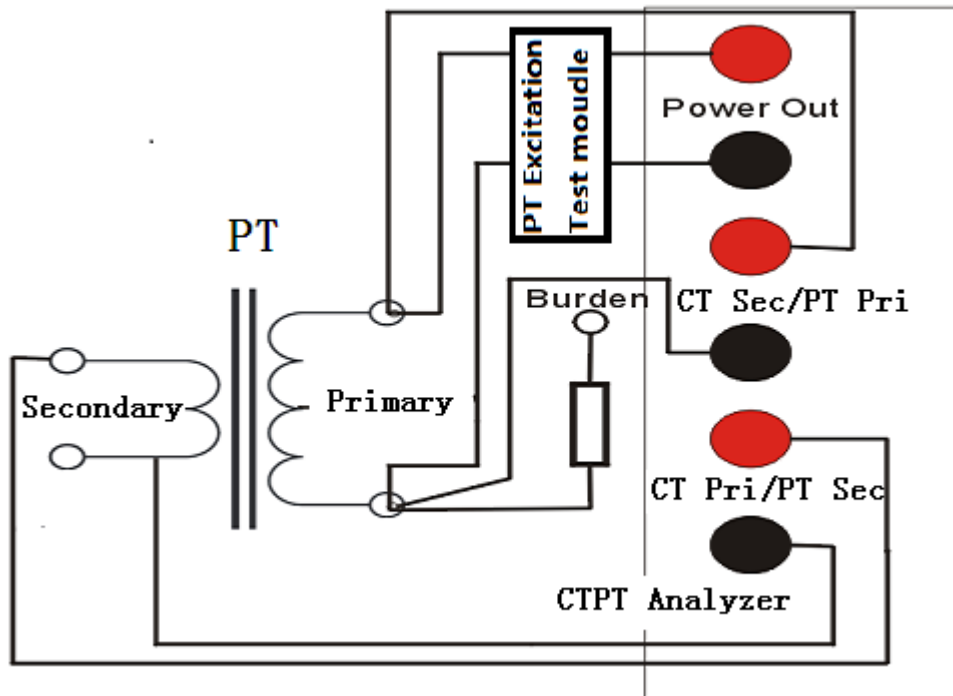

Figure 3.9 PT turns ratio and polarity test connection
Please connect Analyzer and sample PT as figure 3.9 in PT turns ratio test and polarity test. It is the same in test connection for both tests.
- 1) Connect Analyzer grounding terminal to protection earth (PE).
- 3) Serial Connection the PT Excitation module to the power output as figure 3.9